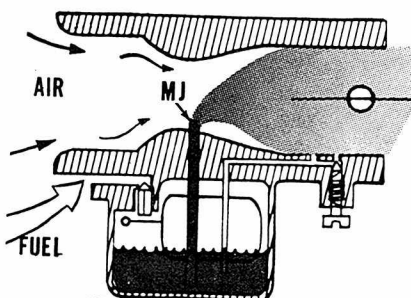
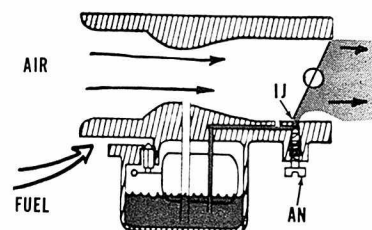

Fig. 1-6—View of carburetor showing disc type throttle valve completely open for high speed operation.
Fig. 1-8—With throttle disc nearly closed, the idle jet (IJ) is used. Usually an adjustment needle (AN) is provided to adjust the idle mixture fuel-air ratio.
**THROTTLE VALVES.** In order to vary the speed, a valve is installed between the fuel nozzle and engine which limits the volume of combustible mixture available to the combustion chamber. When less mixture is available to the combustion area, there will be less expansion resulting in less rpm and less power. The two types of throttle valves commonly used are the disc (butterfly) valve (Fig. 1-6) and the variable venturi (slide) valve (Fig. 1-9).
**DISC (BUTTERFLY) VALVE.** A typical disc type throttle valve is shown in Figs. 1-6, 1-7 and 1-8. As the throttle disc is turned, the opening of the throttle bore is decreased. When disc is in position shown in Fig. 1-8, the throttle opening is nearly closed. Idle speed adjustment is ac-
complied by stopping rotation of the valve before throttle bore is completely closed. When throttle is nearly closed, vacuum at the venturi is insufficient to provide correct fuel-air ratio by using only one fuel nozzle. Usually an additional idle jet (Fig. 1-8) and intermediate jet (Fig. 1-7) are incorporated.